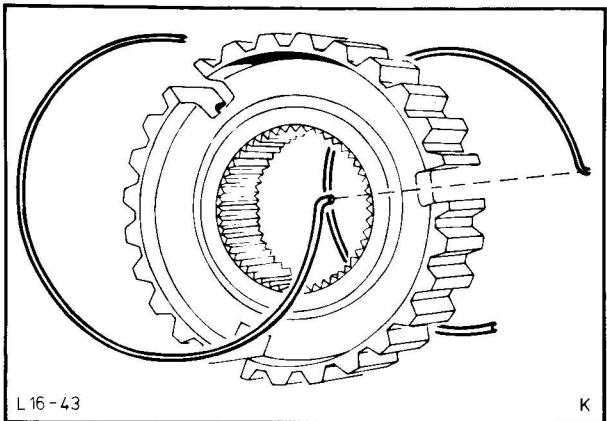

Fig. 42. Insert synchroniser springs
30. Reassemble 1st/2nd gear synchroniser hub: insert blocker bars and fit synchroniser springs staggered with their opposite ends in the same blocker bar, Fig. 42.